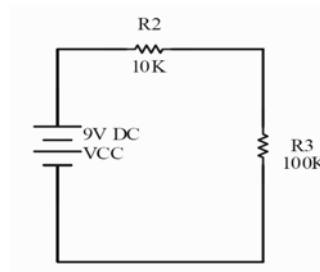

Figure 11: Resistor Circuit
1. Measure the resistor values R2 and R3 in Figure 11 using HP DMM.
2. Build the resistor circuit in Figure 11 onto a protoboard.